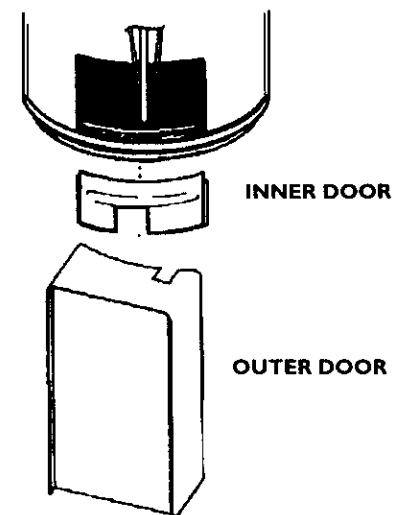

Figure 12
3. Remove outer door covering gas thermostat and burner assembly. (Figure 12, Page 22)
11. Replace inner door. (Figure 12, Page 22)
14. Replace the outer door. (Figure 12, Page 22)
2. Remove outer door covering gas thermostat and burner assembly. (Figure 12, Page 22)
5. Replace outer door. (Figure 12, Page 22)